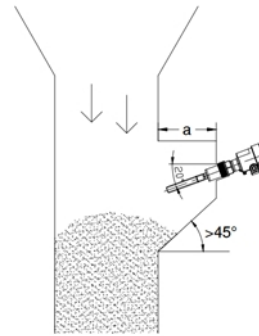

Fig.2
- For horizontal installation, if the measured medium is with higher density and bigger granular size, and the medium fills in vertically, it can impact the probe. The Fork-11 should be mounted in a recess portion of the container (Fig.2) to protect the probe from the impact damage or being bent by the filling material and ensure the instrument working properly. In Fig.2, “a” must be longer than the probe intrusion length.